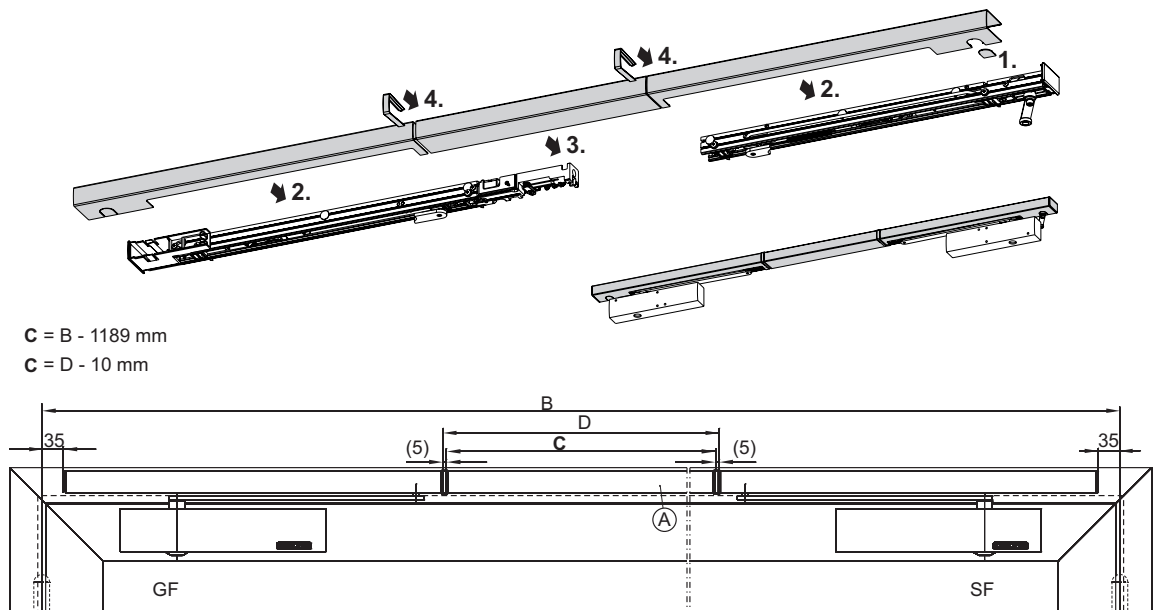

Fig. 6.11.1
- ▶ Shorten adjustable-size middle cover panel "A" to size "C" (Fig. 6.11.1).